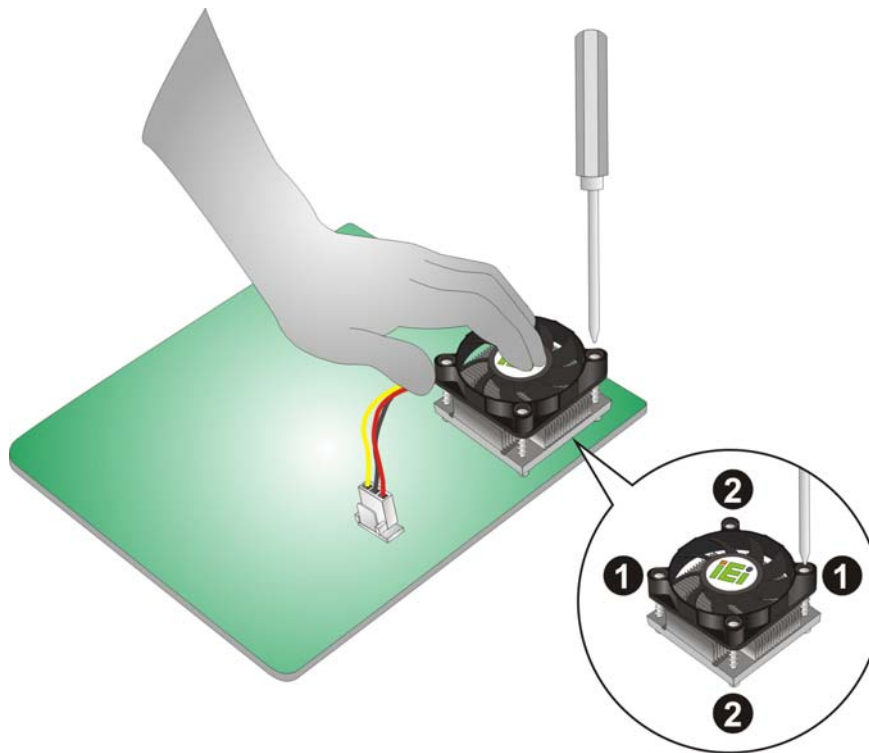

Figure 5-6: Secure the Cooling Kit
- Step 4:** Place the cooling kit onto the CPU. Push down the fan with some pressure to secure the cooling kit with the support bracket. See **Figure 5-6**.
- Step 5:** Tighten the screws. Use a screwdriver to tighten the four screws. In a diagonal pattern, tighten each screw a few turns then move to the next one, until they are all secured. Do not overtighten the screws. See **Figure 5-6**.